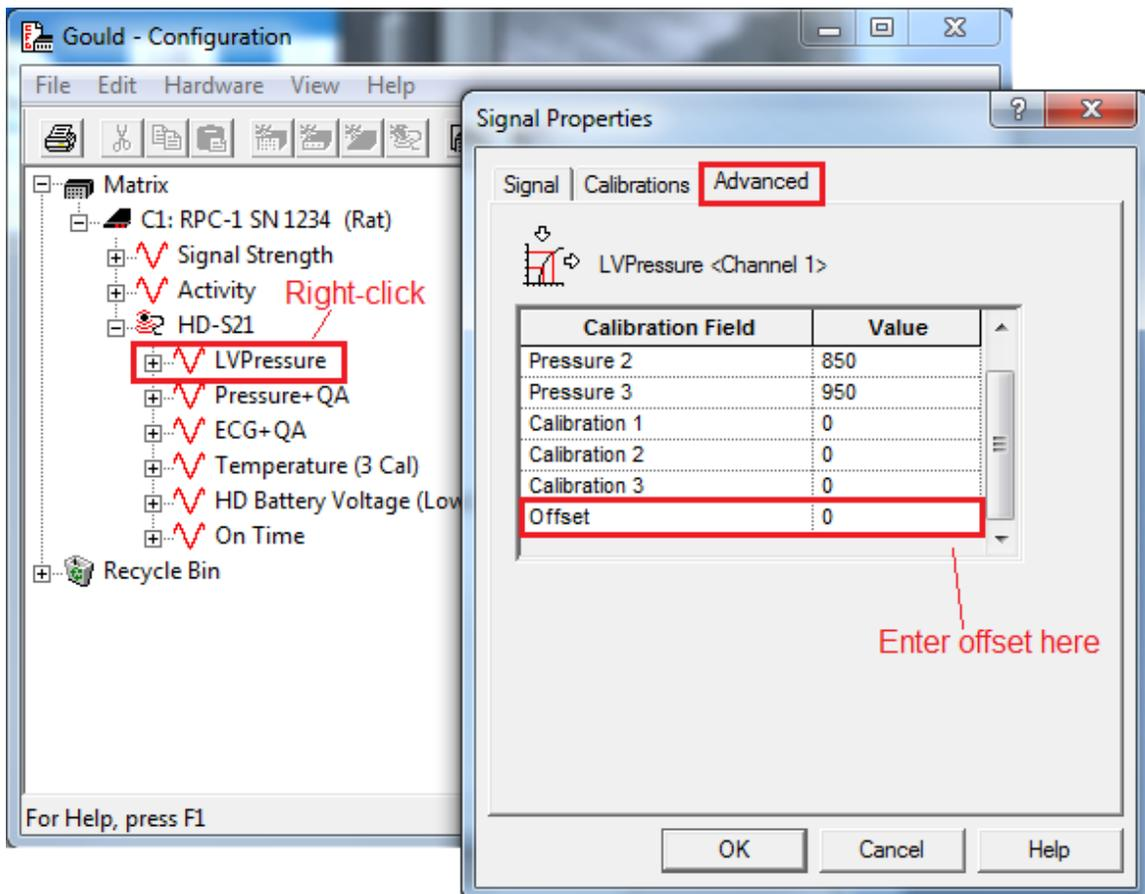

Figure 4: LVP Manual Offset in OpenART
5. Under the Advanced tab, enter the offset recorded earlier into the offset row and click OK. See Figure 4.